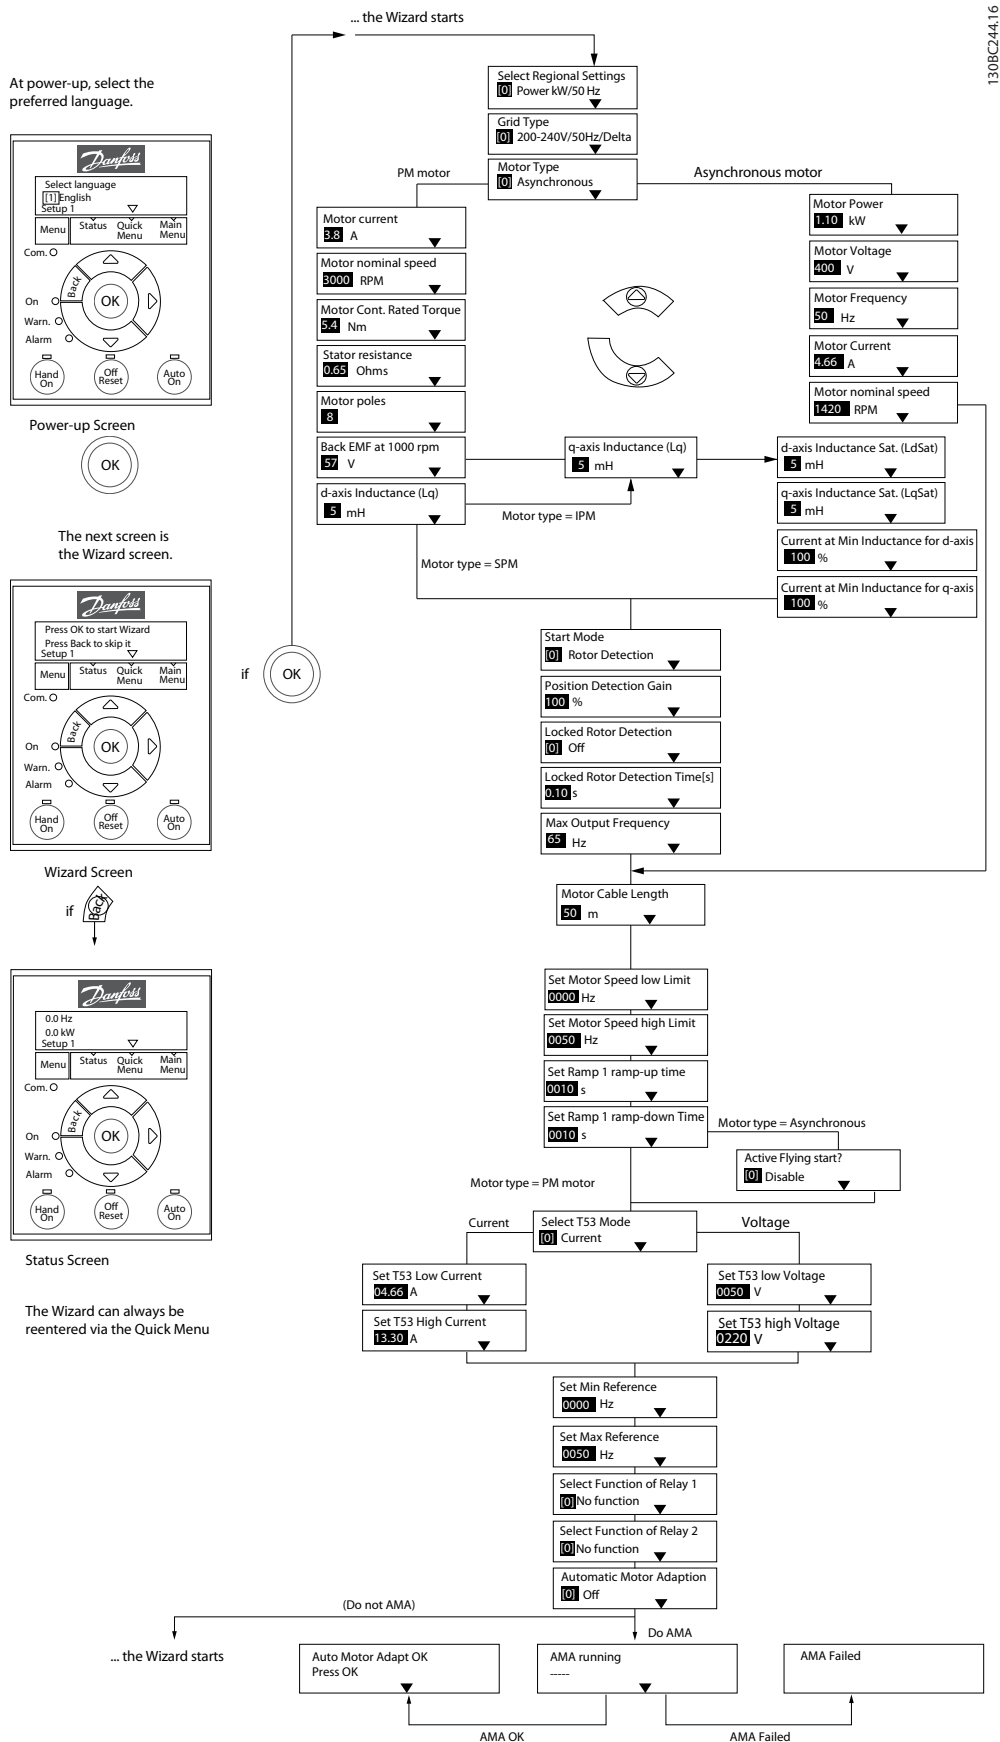

Figure 2.4 Set-up Wizard for Open-loop Applications
- Wizard for open loop applications. See *Figure 2.4* for details.